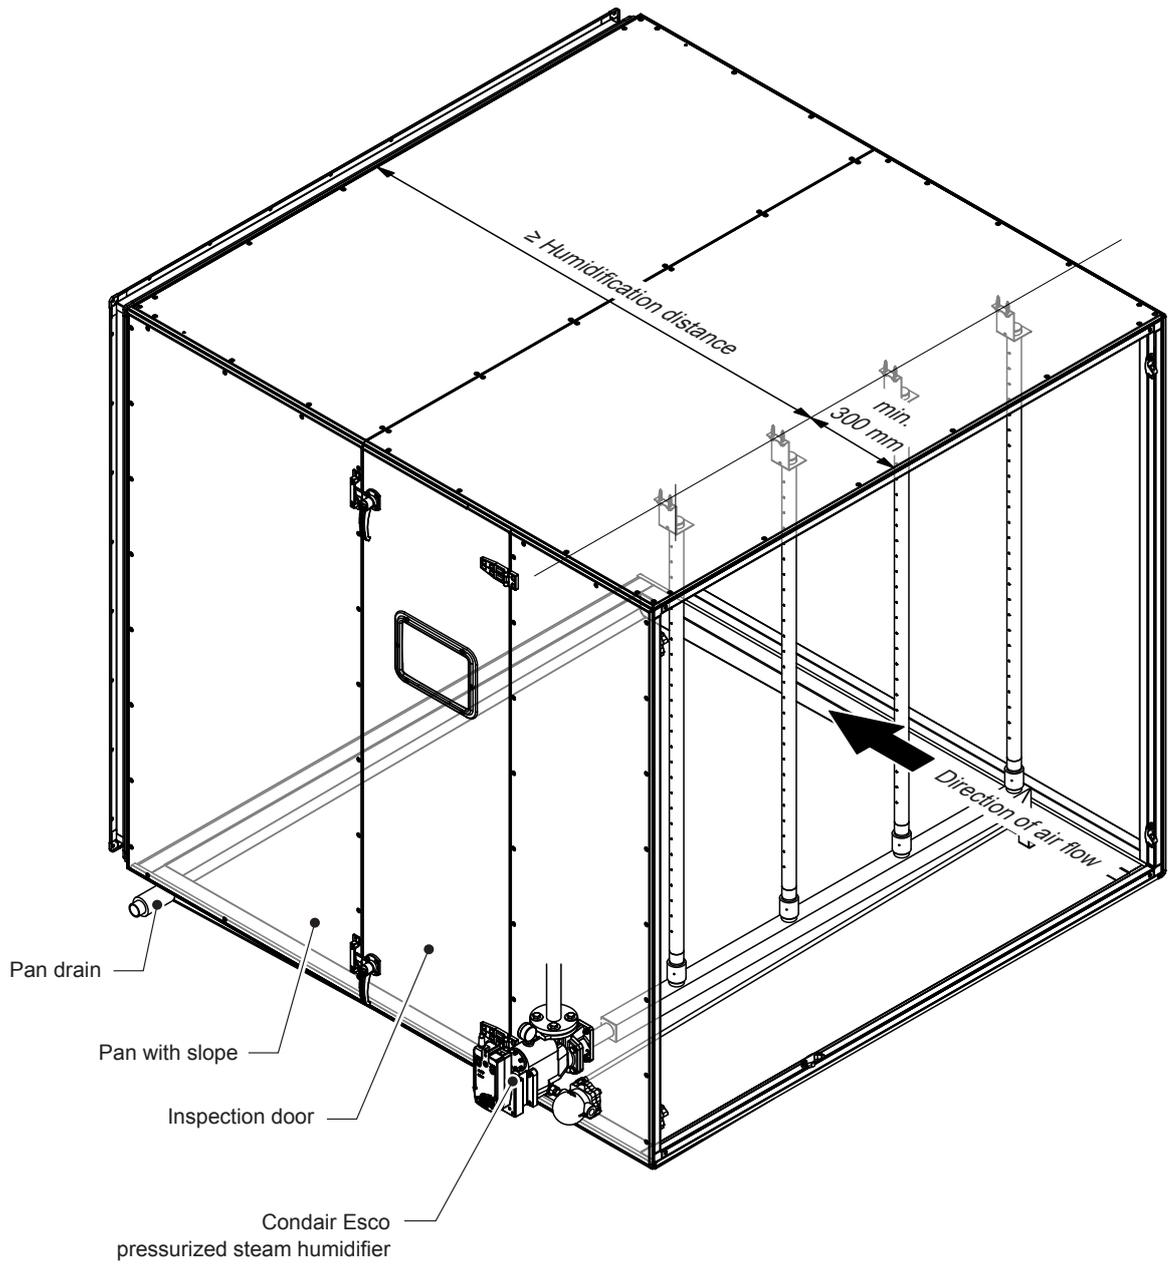

Fig. 28: Air duct/air handling unit with DR73: Distances to upstream and downstream obstacles
- Distance to upstream obstacles for DR73 at least 300 mm (see Fig. 28).